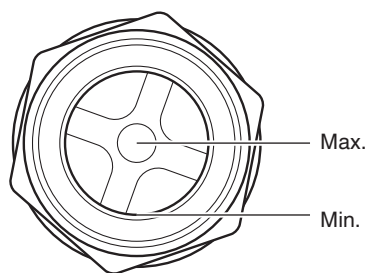

Fig. 8
D) Oil level should be checked on a daily basis to ensure it does not exceed the maximum notch or does not fall below the minimum notch on the oil sight glass. (Fig. 8)